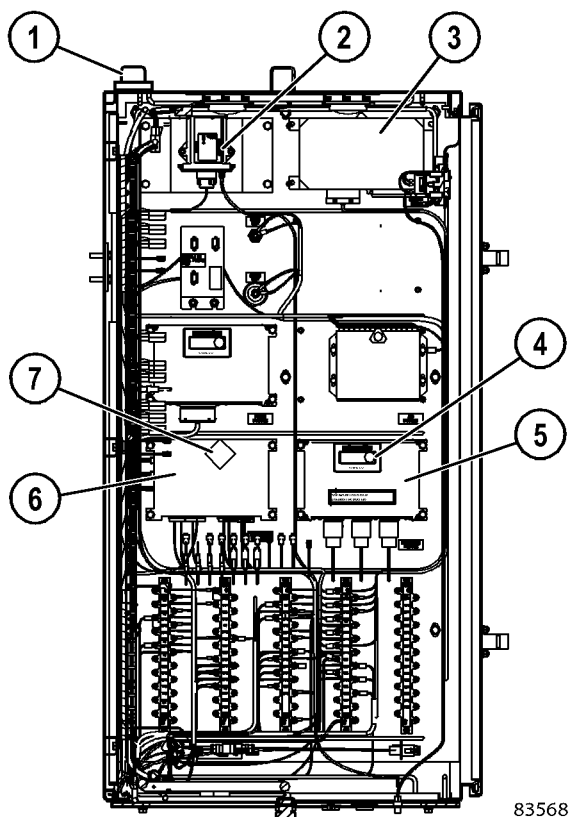
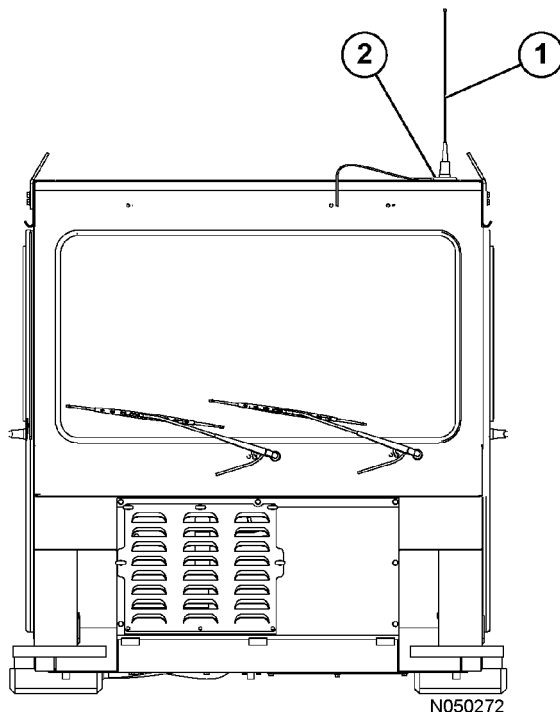

FIGURE 5-13. KOMTRAX PLUS COMPONENTS
FIGURE 5-14. ORBCOMM ANTENNA
This system uses KOMTRAX Plus controller (formerly known as VHMS) (6, Figure 5-13) to gather data about the operation of the truck from sensors and other controllers installed on the truck. The data stored in KOMTRAX Plus is collected by a laptop personal computer (PC) or transmitted directly by communications satellite (utilizing the ORBCOMM controller). This data is then compiled at the Komatsu computer server. Based on this information, the servicing Komatsu distributor will suggest improvements and provide information aimed at reducing machine repair costs and downtime.
The KOMTRAX Plus system is turned on by the truck key switch. Immediately after receiving 24V power from the key switch, the KOMTRAX Plus controller begins the power-up initialization sequence. This sequence takes about three seconds, during which time red LED digits (7, Figure 5-13) display a circular sequence of flashing LED segments.
Orbcomm controller (3, Figure 5-13) transmits data through antenna (1, Figure 5-14) mounted on top of the cab. The antenna coaxial cable is routed through the inside of the cab to protect it from damage. If the antenna or coaxial cable is damaged, replace the parts.
Interface module (3, Figure 5-13) receives data from the sensors installed on the truck and sends this information to the KOMTRAX Plus controller. There is a small green LED light on the face of the controller. With the key switch ON, the light must be blinking. If the light is continuously illuminated, there is a problem in the controller.
The Komatsu wireless bridge (2, Figure 5-13) allows for the transfer of information from the KOMTRAX Plus controller to a laptop computer with wireless network capabilities. The information that is downloaded through the KWB (Komatsu wireless bridge) is the same information that is gathered during a manual download from the KOMTRAX Plus system. Downloads can be performed with the laptop computer located on or near a stationary truck, or the computer can be located close to a path of moving trucks. Total download time is approximately 10 seconds. If only a portion of the data is downloaded while the truck is passing by a laptop computer, the remaining information will be downloaded the next time a data download occurs.